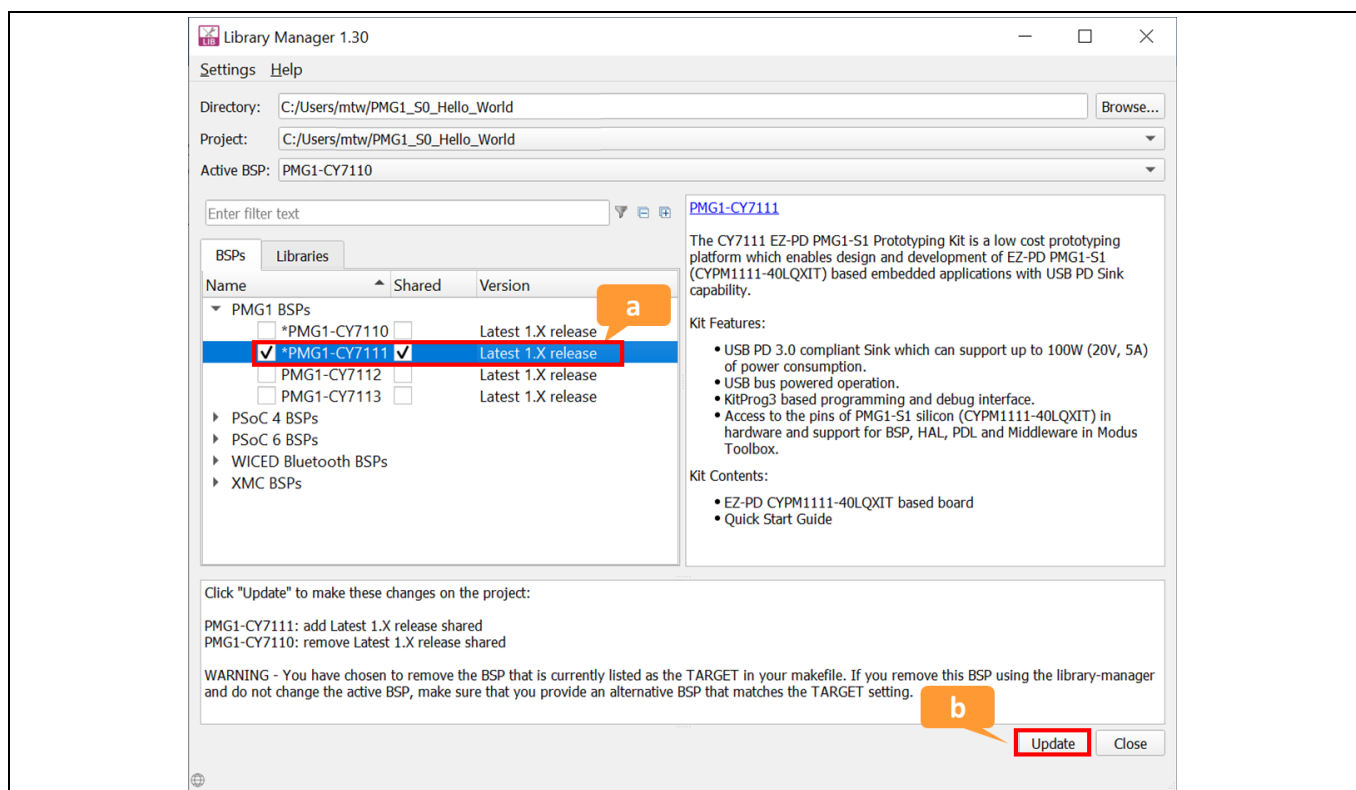

Figure 29 Porting a project to a different BSP
- a) Select the new BSP to add it and deselect the current one to remove it. In **Figure 29**, you can see that PMG1-CY7110 is deselected and PMG1-CY7111 is selected. This means that you are porting the PMG1 MCU 'Hello World' code example to PMG1-S1 MCU.